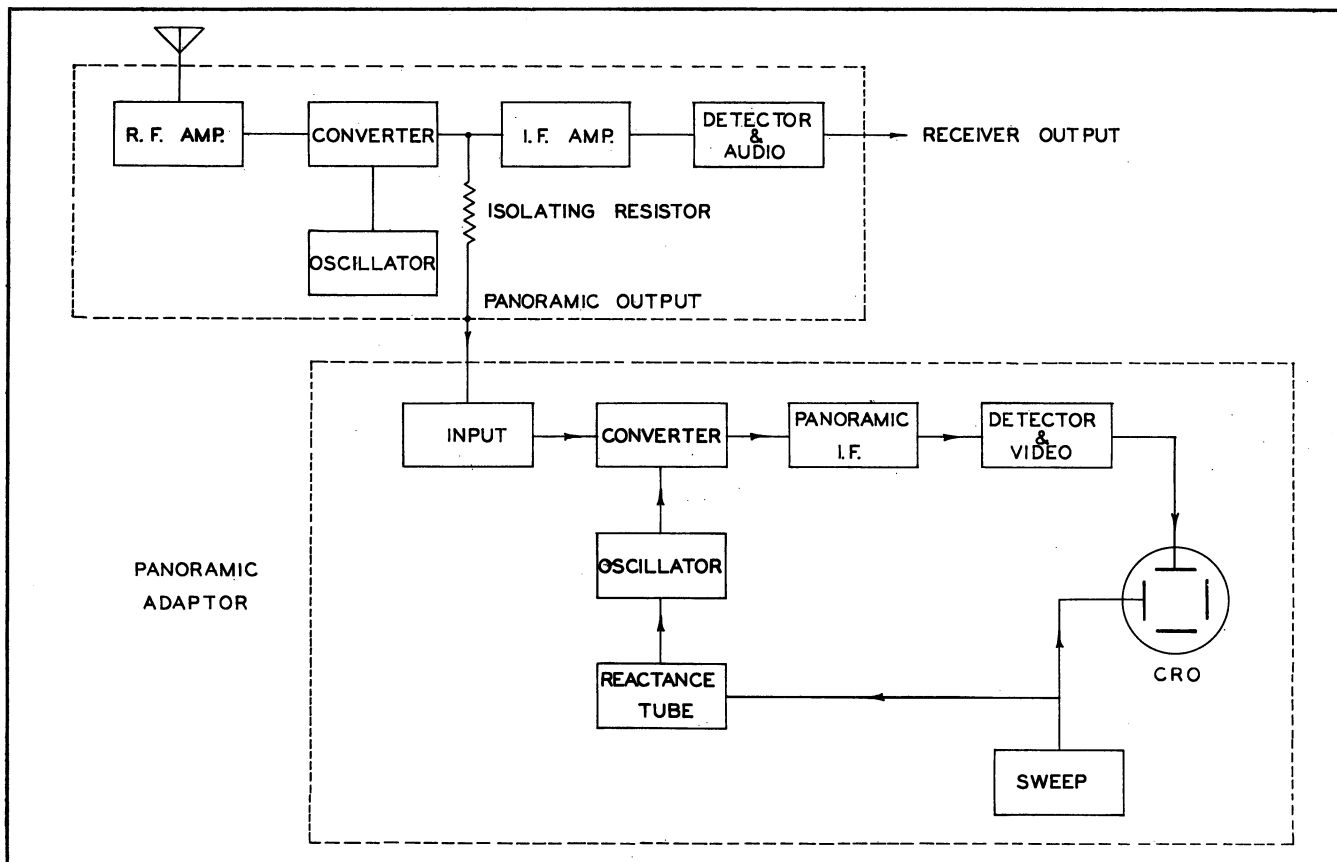

Figure 4-1. Simplified Diagram of Operation Sequence
a. Panoramic Adapter AN/APA-10 is an equipment which is used with certain receivers to picture on the screen of a cathode ray tube a portion of the radio spectrum. (See fig. 4-1.)